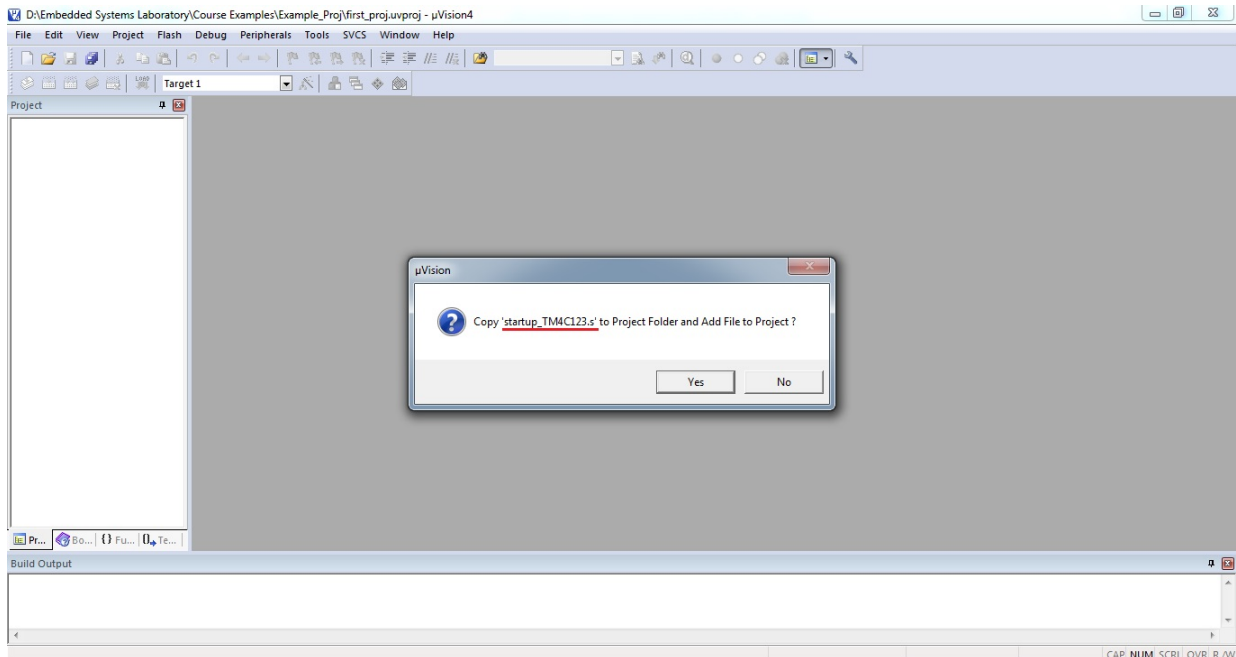

Figure 1.12: Add or discard the startup file to the project
5. When prompted to copy '**Startup_TM4C123.s** to project folder' click on *Yes* or *No* according to the requirement of your project (Figure 1.12).